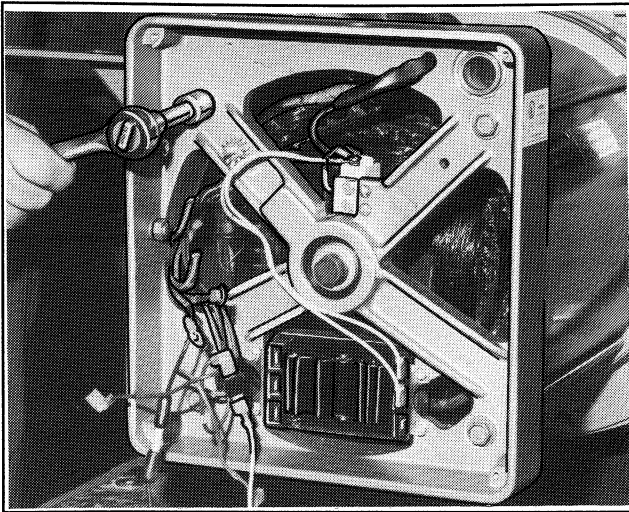

Figure 8-7. Removing Over-Bolts
13. Remove the four over-bolts securing the end bracket as shown in Figure 8-7.